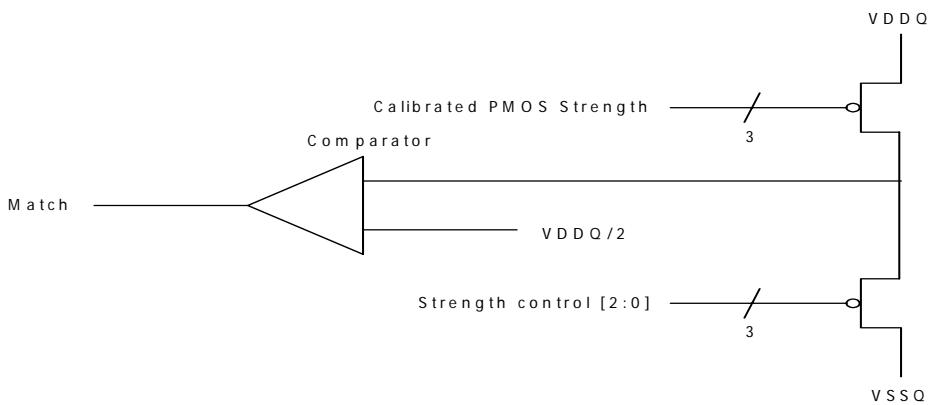

Figure 43: NMOS Calibration
- 2.) Then calibrate the NMOS device against the calibrated 240 Ohm PMOS device as illustrate in Figure 43.